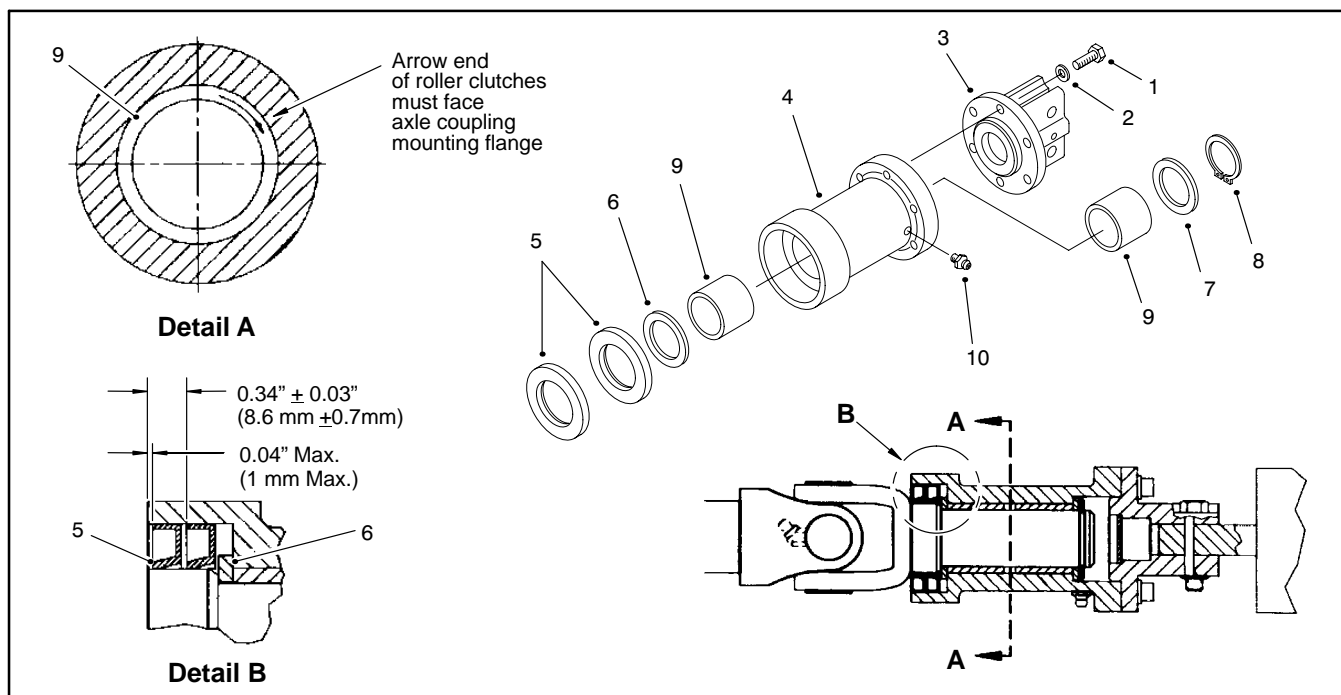

Figure 9
2. Remove the capscrews and lock washers securing the axle coupling to the clutch and remove the coupling (Fig. 9).
3. Remove the retaining ring from the yoke shaft and slide the clutch assembly off the yoke shaft (Fig. 9).
- B. Each roller clutch must be installed with arrow stamped end toward axle coupling mounting flange (Fig. 9 Detail A).
3. Press both seals into clutch housing to dimensions shown (Fig. 9 Detail B). Seals must be installed with lip facing out.
4. Slide clutch assembly onto yoke shaft and install outer thrust washer and retaining ring (Fig. 9).